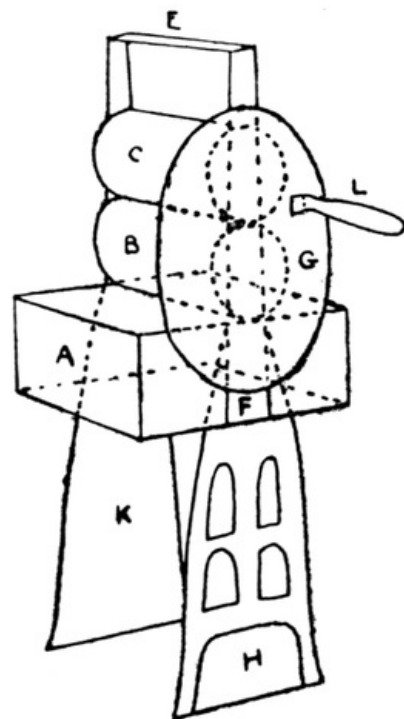

FIG. 123
**A Mangle.** A is a match-box turned upside down to which are gummed two corks which have been filed to make them perfect cylinders (B and C in Fig. 123).